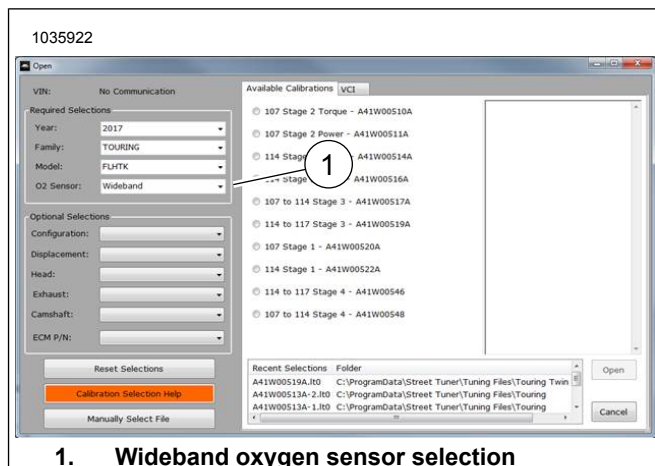

Figure 37. Wideband Oxygen Sensor Selection
22. See Figure 37. Use Screamin' Eagle Pro Street Tuner to complete installation. Download new ECM calibration when installing this kit. When selecting a calibration to download with the Screamin' Eagle Pro Street Tuner, select Wideband (1) from the pull down menu for the Oxygen Sensor option. Refer to the Screamin' Eagle Pro catalog or contact a Harley-Davidson dealer for Screamin' Eagle Pro Street Tuner details.